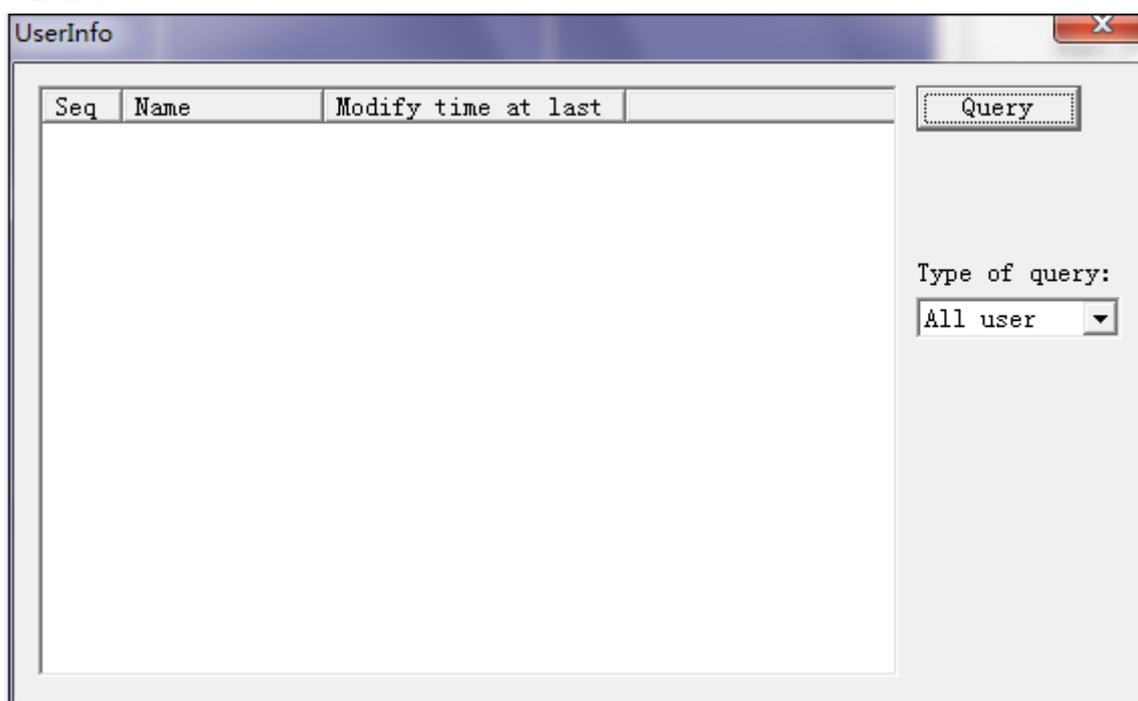

Figure 2- 25
Step 1. In Control&Search dropdown list, select user info, and click Control&Search. See Figure 2- 25.